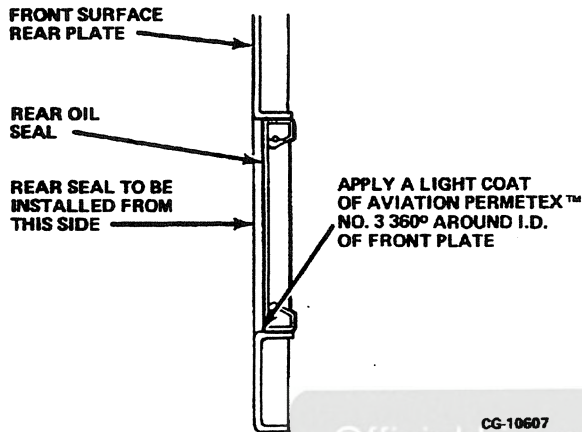

Figure 6.25. Location of Aviation Permatex™ #3 Sealant Application (Rear Oil Seal Installation)
- e. Coat seal bore I.D. in rear cover with a thin coat of Aviation Permatex™ #3, as shown in Figure 6.25.